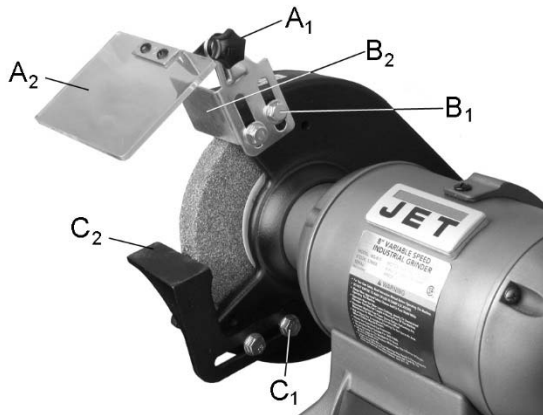

Figure 8-1: eye shield adjustment
- Loosen lock knob (A₁, Figure 8-1).
Refer to Figure 8-1.